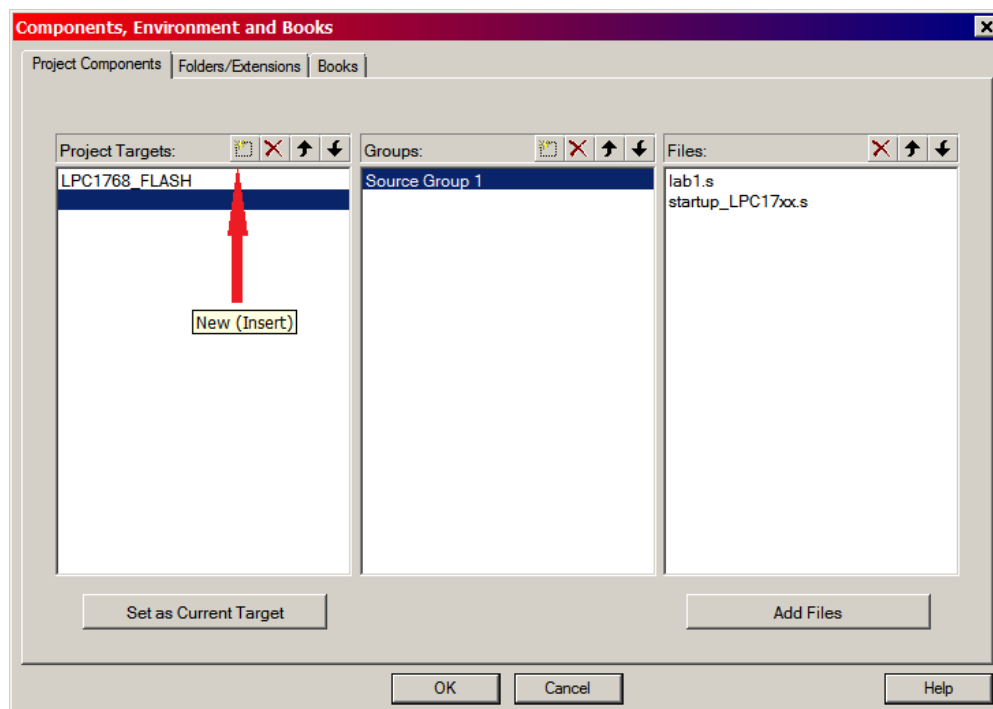

Figure 1.2 – Creating new targets
- Under the **Project Components** tab, click on **New (Insert)** icon for **Project Targets**. Figure 1.2 shows a captured screen.